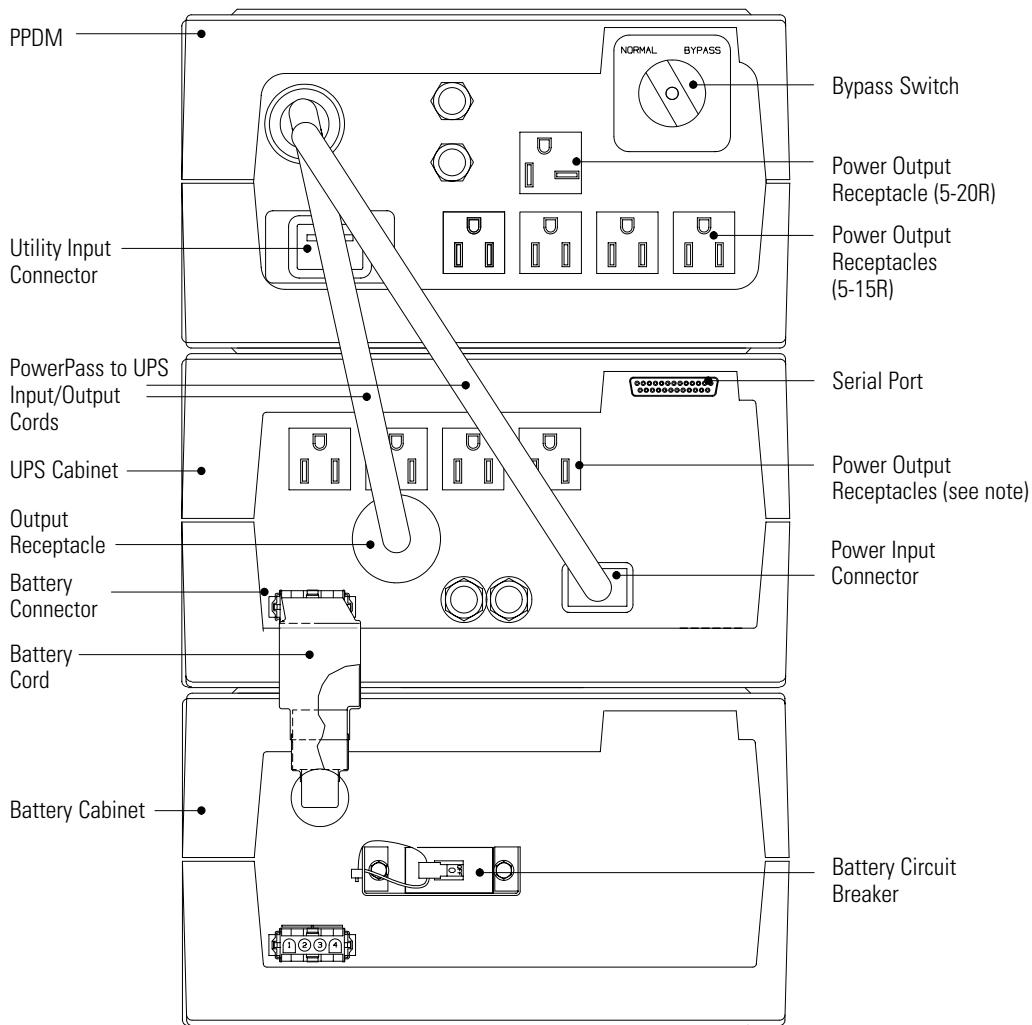

Figure 13. UPS with PPDM Rear Panel
2. Turn the Bypass switch on the PPDM to the BYPASS position (see Figure 13). The PPDM is now powering your equipment from utility power.
3. Plug the input and output cords of the PPDM into the power connectors on the UPS as shown in Figure 13.